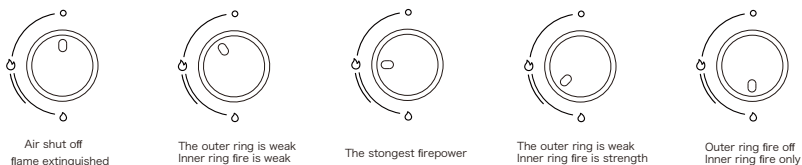

Figure 5
Rotate the knob slowly to adjust different firepower levels (the shape of the knob is for reference only, please refer to Figure 5 for the actual product).
Turn the direction of the knob to the closed position of the gas source (that is, the " " position), and the flame will be automatically extinguished, and then the main switch of the gas source will be turned off (see Figure 5).
The surface of the hob, pan supports, enamelled burner caps (C) and burner heads (T) (see fig. 5) need to be cleaned after each time they are used with warm soapy water, rinsed and then dried well to keep them in good condition.
- Check that the heads burners and the relative burner caps, are correctly positioned in their housings (see fig. 5).